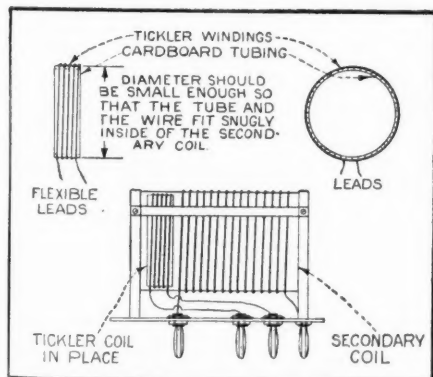

Figure 3
be moved back and forth until the best location is found. The accompanying drawing, Figure 3, may help the constructor.
If an antenna now be connected to this same primary, L2, Figure 3, it will be found that the effect of L2 on L1 becomes much greater since now the inductance and the capacity of the antenna has been introduced in the primary circuit. This effect is shown for short, medium and long antennas in Figure 5, curves (C), (D) and (E).